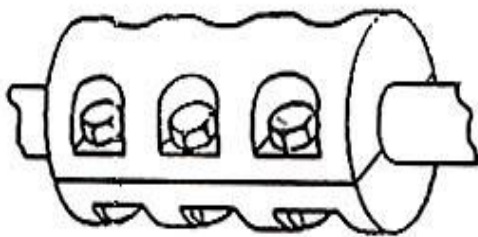

FIG 4.
- A. Sleeve couplings (Figs 4 and 5) are not used frequently between drive motors and driven equipment because of the need to align them exactly.